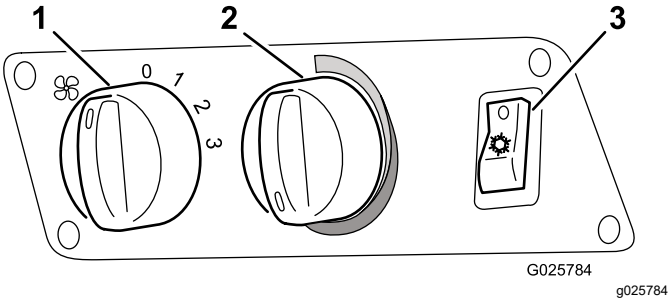

Figure 4
2. Switch on the blower switch (Figure 4).
3. Switch on the air-conditioning switch (Figure 4).
4. Set the temperature controller (Figure 4) to the maximum Cold setting (full clockwise direction).